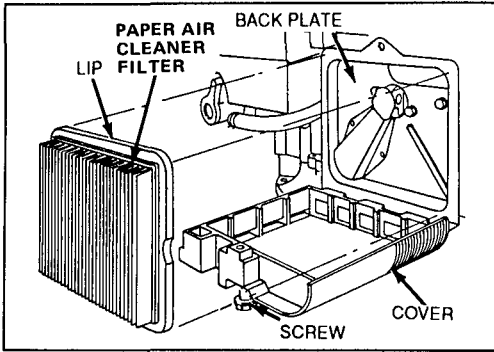

Figure 16
3. Remove paper air cleaner filter (Fig. 16) and discard.
4. Insert new paper air cleaner filter cartridge so lip touches back plate as shown in Figure 16.